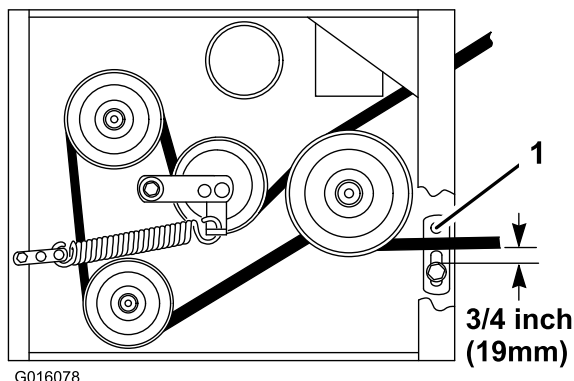

Figure 46
8. Check the belt guide under the engine frame for proper adjustment (Figure 46).
Note: When the mower belt is engaged, ensure the distance between the belt guide and the mower belt is 19 mm (3/4 inch) (Figure 46). Adjust the mower belt guide as necessary. The disengaged belt should not drag or fall off the pulley when the guides are properly adjusted.